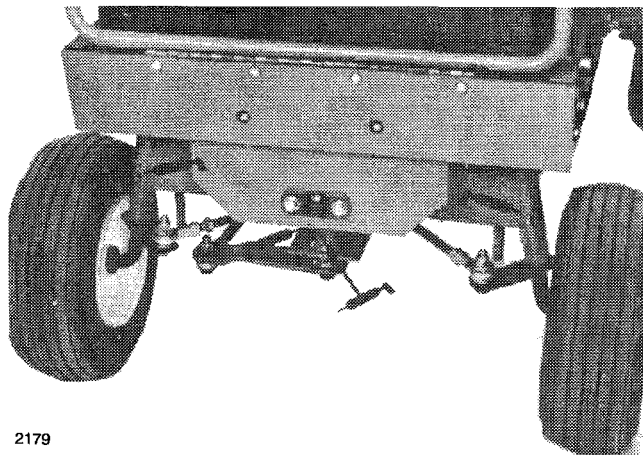

Figure 21
2. Lubricate spindles, steering shaft and pivot (Fig. 21).